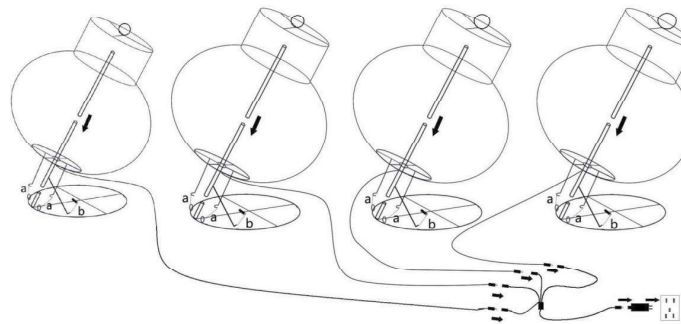

Fig.1
2. Insert the lower pole(C) into the base and follow with the upper pole(B) to have one standing long pole.
3. Slide the ornament(A) over the pole. Put the top of the ornament into the pole.
- b. Insert the tip of the rod into the corresponding metal cylinder of the base(D). (see Fig.1)